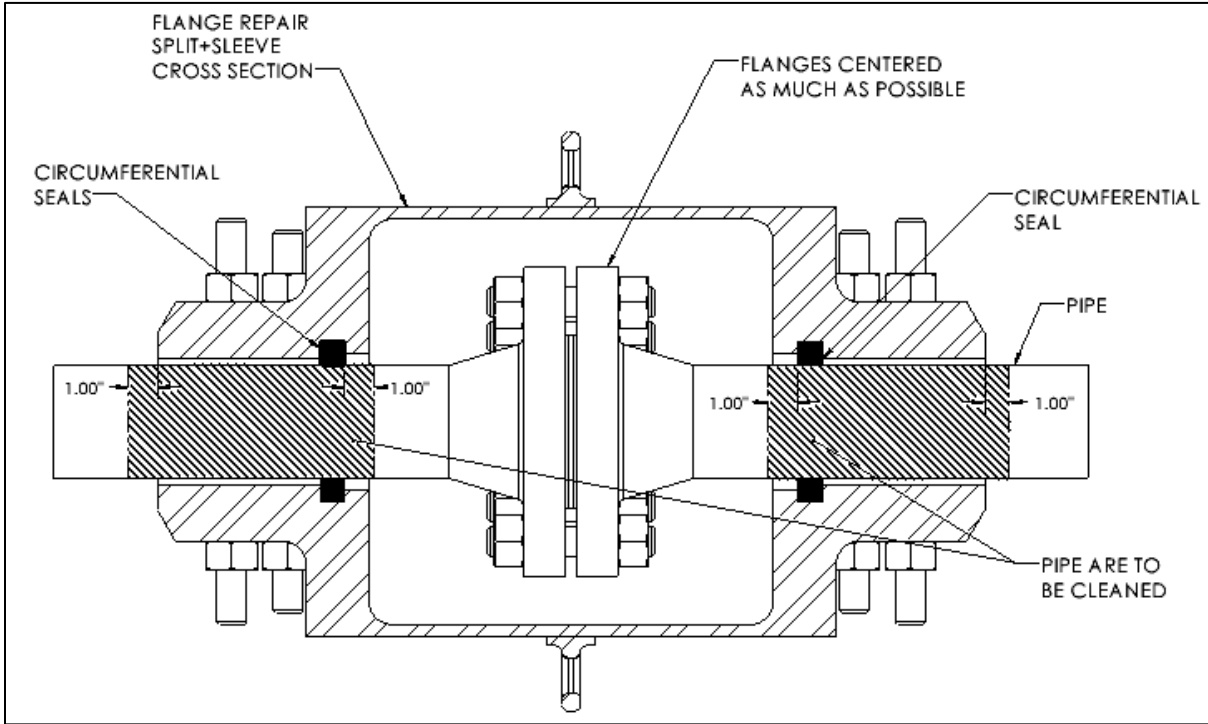

Figure 1
1. Remove all coatings, rust and scale from the pipe surface where the circumferential seals of the PLIDCO Flange Repair Split+Sleeve will contact the pipe (see Figure 1). A near-white finish, as noted in SSPC-SP10 / NACE No.2, is preferred. The cleaner the pipe surface the more positive the seal.
2. Where the circumferential seals will contact any longitudinal, circumferential, or spiral pipe welds, the welds in this vicinity must be ground flush with the outside diameter of the pipe. The area should extend 1" (25mm) inside of the seals and 1" (25mm) beyond both ends of the fitting (see Figure 1).